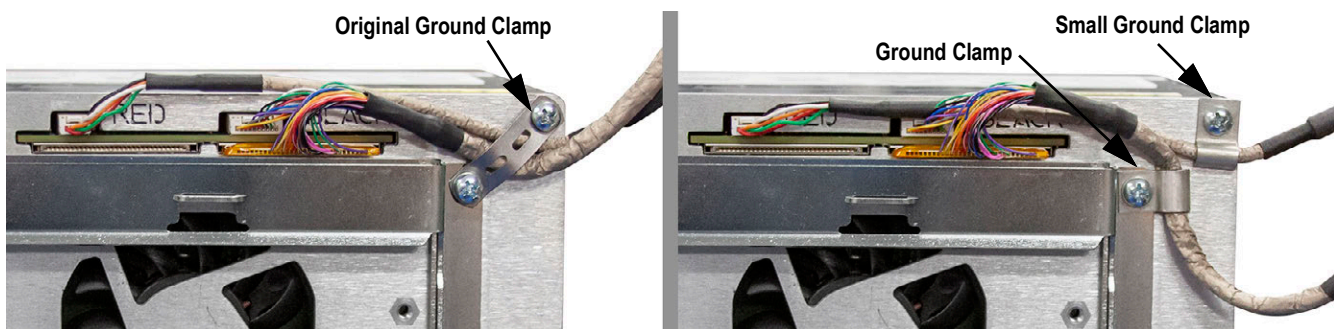

Figure 2-19. Controller Box Shield Grounding
7. Remove the original ground clamp used on both the display and touchscreen cables, see Figure 2-19 on page 32.